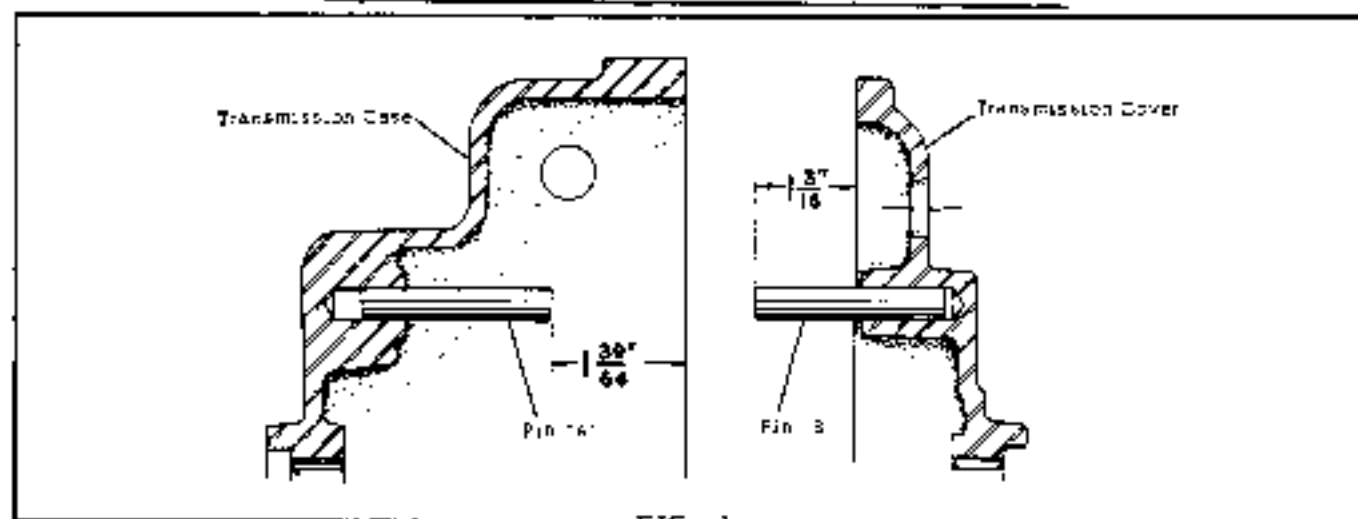

FIG. 1
1. Before beginning assembly, check the 2 roll pins that limit the movement of the shift stem. See Fig. 1. It is imperative that both of these pins be checked for proper height and adjusted if necessary. Note the dimensions shown: pin "A" in the transmission case is set to give a dimension of 1-39/64" from the end of the pin to the face of transmission case, and pin "B" in the transmission cover is set to give a dimension of 1-3/16" from the end of the pin to the face of cover. When replacing pins, the groove of the pin should face the top of the transmission case.